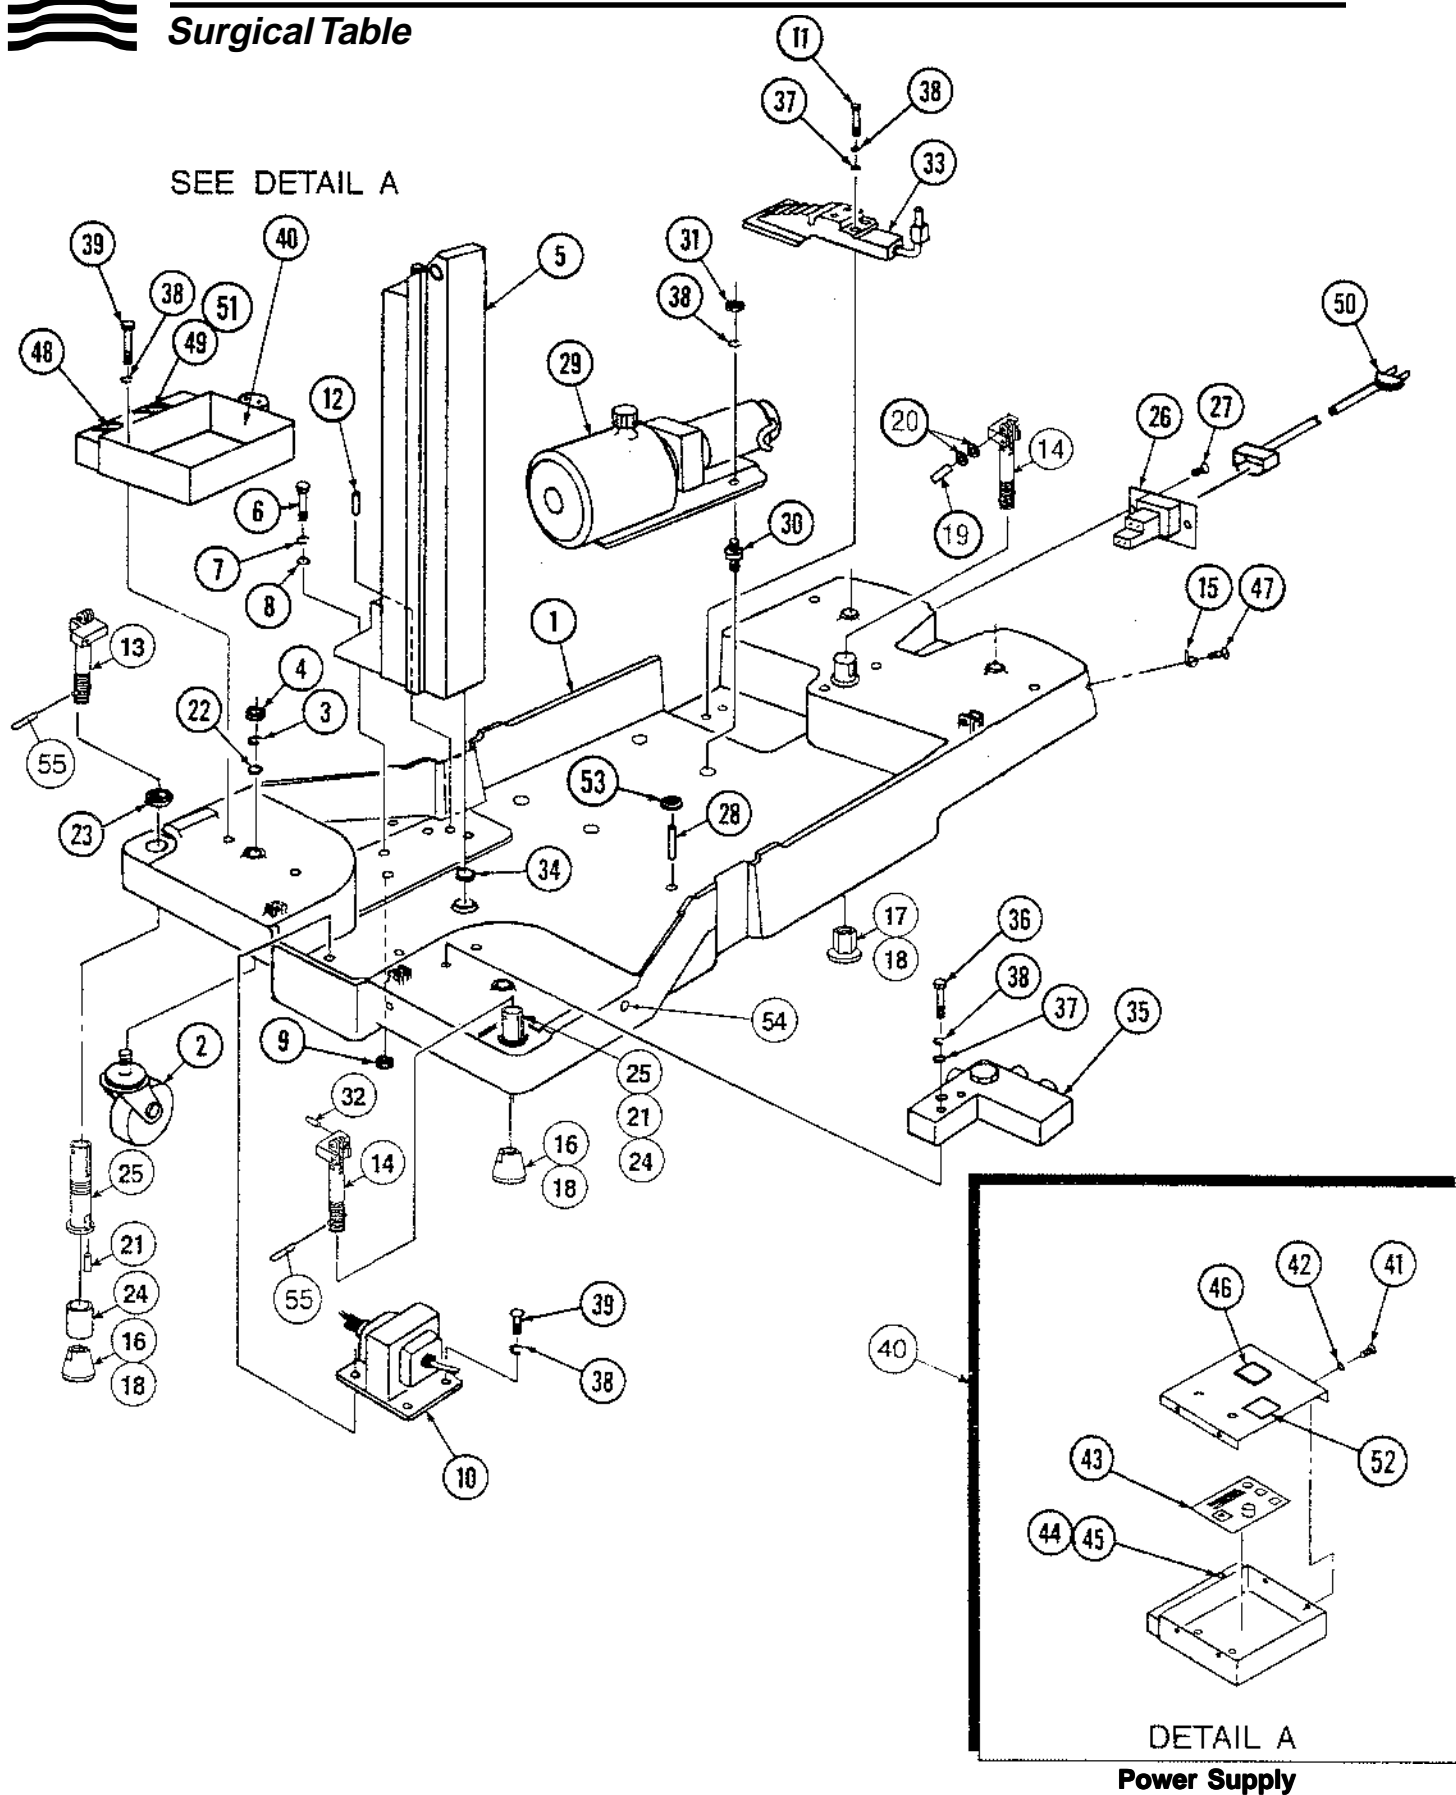

FIGURE 9-4. Table Base Assembly (Part 3 of 3)
<p>* Item #'s 37 - 43 can be replaced as a complete assembly by ordering P-93908-634 (left-hand shaft and link assembly) or P-93908-635 (right-hand shaft and link assembly). See Figure 9-4, items 13 & 14 for a pictorial.</p>